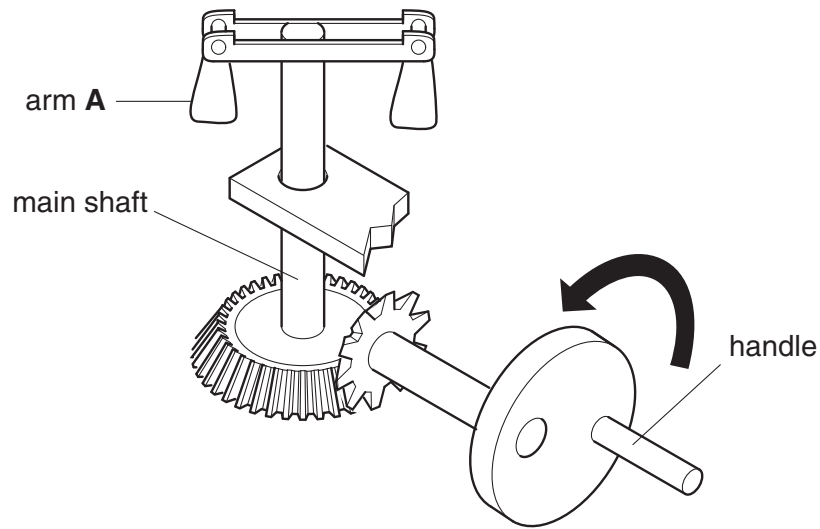

Fig. 7
4 Fig. 7 shows incomplete details of a toy roundabout.
- (a) Draw an arrow on Fig. 7 to show the direction of movement of arm **A** when the handle is turned as shown. [1]